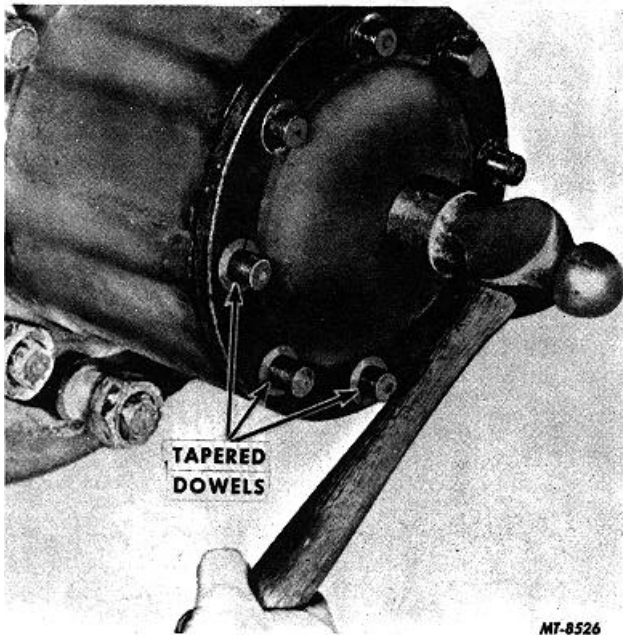

Fig. 6 Loosening Dowels in Axle Shaft
2. Using a heavy hammer, strike sharply on the center of the flange of the axle shaft, Fig. 6, This will unseat and loosen the tapered dowels in each stud hole.
4. After all dowels have been removed, push the axle shaft flange back into position against the wheel hub and again strike a sharp blow in the center of the flange as shown in Fig. 6. This will cause the axle shaft to spring away from the wheel hub and allow removal of the axle shaft without resorting to the use of a pry bar or screwdriver. Any prying between axle shaft flange and wheel hub may damage the seal assembly or machined surfaces of the wheel hub or axle shaft flange.